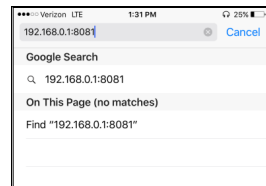

Figure 8: xPicoWiFi Web Address
5. Once connected, open a browser window and type “192.168.0.1:8081” in the address bar. Press the Enter key. See Figure 8.